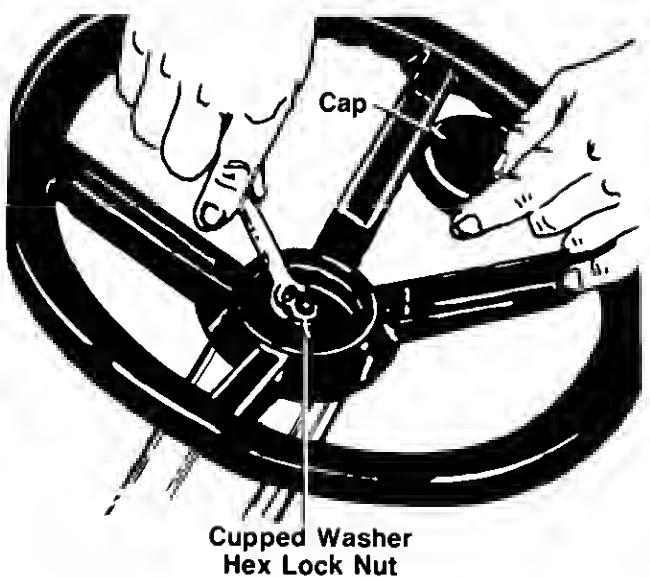

FIGURE 8.
16. Place **steering wheel** (C) in position desired. Make certain the steering wheel is seated over the end of the steering tube.
17. Place the **capped washer** with the cupped side down over the **steering shaft**. Secure with 5/16" **hex lock nut**. See figure 8.